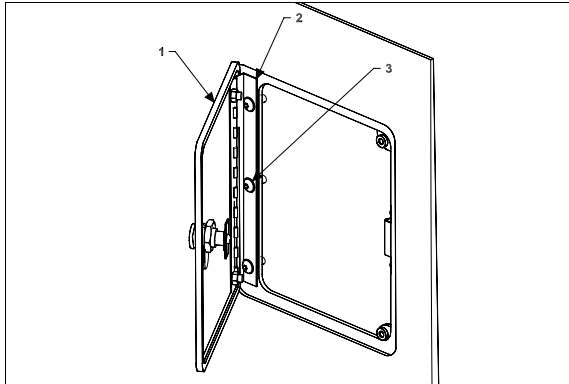

FIGURE 71: FUEL FILLER DOOR
1. Open the fuel filler door (1, Figure 71).
2. Loosen the screws (3, Figure 71) holding the panel to hinge (2, Figure 71) assembly.